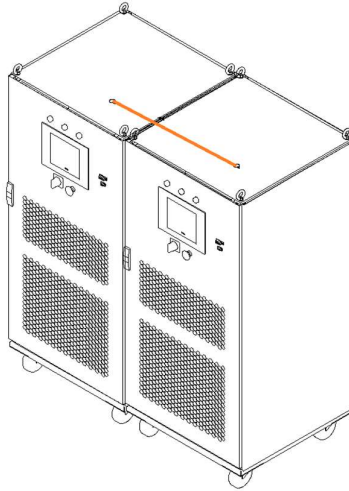

Figure 1-24 Cable holes on the top of the cabinet
**Step 1:** Insert optical fiber cables through the cable holes on the top of the cabinet, as shown in Figure 1-24.